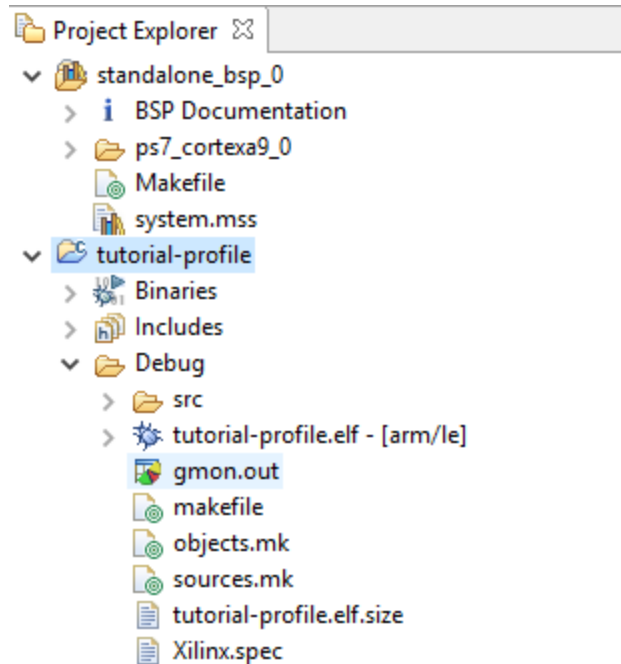

Figure 42: Invoking gprof on gmon.out.
1. Expand the **Debug** folder under the tutorial-profile project in the Project Explorer view, and double-click on the **gmon.out** entry (Figure 42).